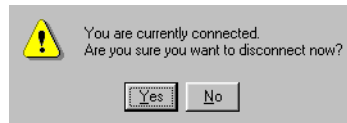

Figure 5-18 HyperTerminal Dialog Box
- Select *Exit* from the *File* pull-down menu to close the HyperTerminal application (Figure 5-18).